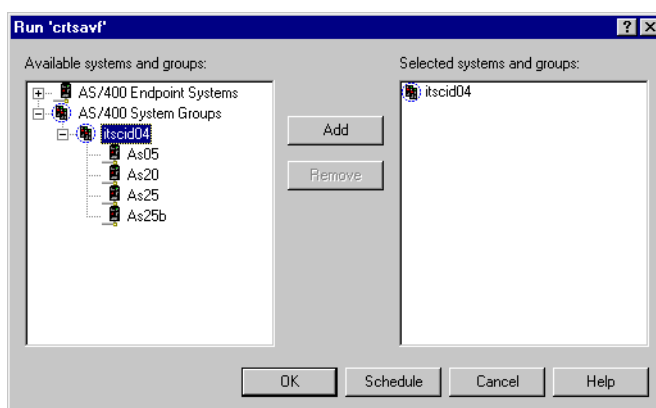

Figure 24. Select endpoint systems to run the command
5. Select the systems or system groups to which you want to send the command definition, and click **Add** for each selection. See Figure 24 for an example.